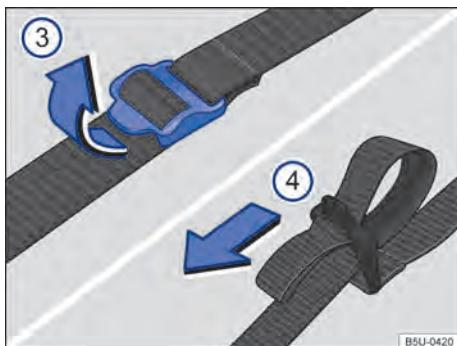

Fig. 161 Vehicle toolkit fastening straps.
- Pull the fastening strap buckles in the direction of the arrow → Fig. 161 \(3\).
- Firmly pull the straps (1) in the direction of the arrow → Fig. 161 \(4\) to secure the toolkit.